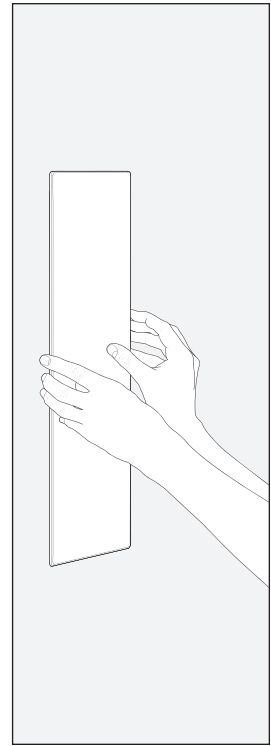

Fig. 1f
- 1) Gently press the grille onto the front face of the speaker (Fig. 1f). The magnets will ensure correct attachment.